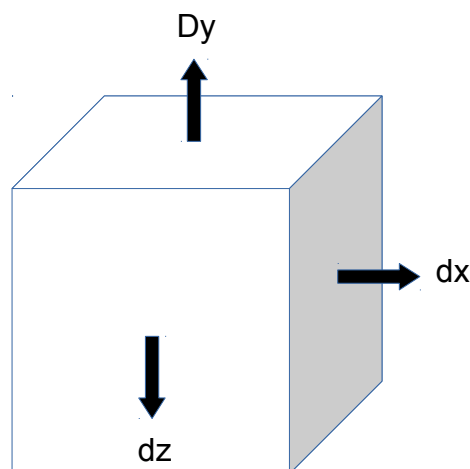

Figure 1 : Representation of the problem
**Embedding** : Worthless imposed displacements  $DY = 0 \text{ m}$  . on the face of bottom (  $y=0.$  ),  $DX = 0 \text{ m}$  . on the left face (  $x=0.$  ) and  $DZ = 0 \text{ m}$  . on the face postpones (  $z=0.$  ) . See figure 1.